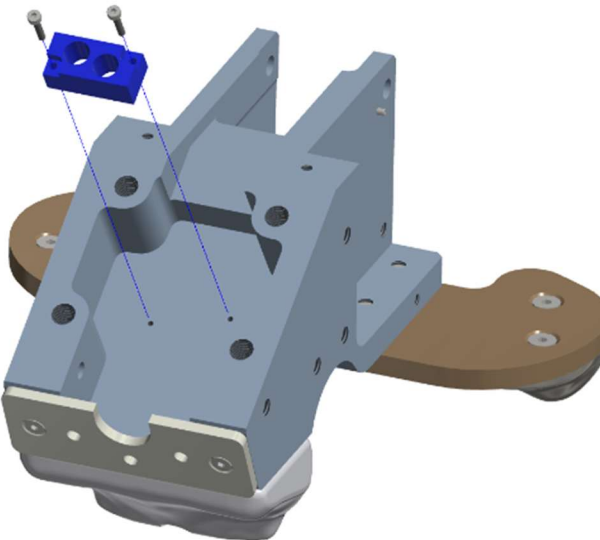

Figure 8-23. Remove the Pelvis Tilt Sensor from the Center Pelvic Bone (474-4541)
8.2.20 Remove the Pelvis Tilt Sensor from the Center Pelvic Bone (474-4541) by removing two M2 X 0.4 X 10 LG. SHCS (Figure 8-23).